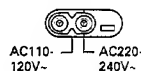

Fig. 1
1. Before plugging in this unit, make sure that the position of the AC Voltage Selector conforms to your line (mains) voltage. If not, it must be reset. See Figure 1.